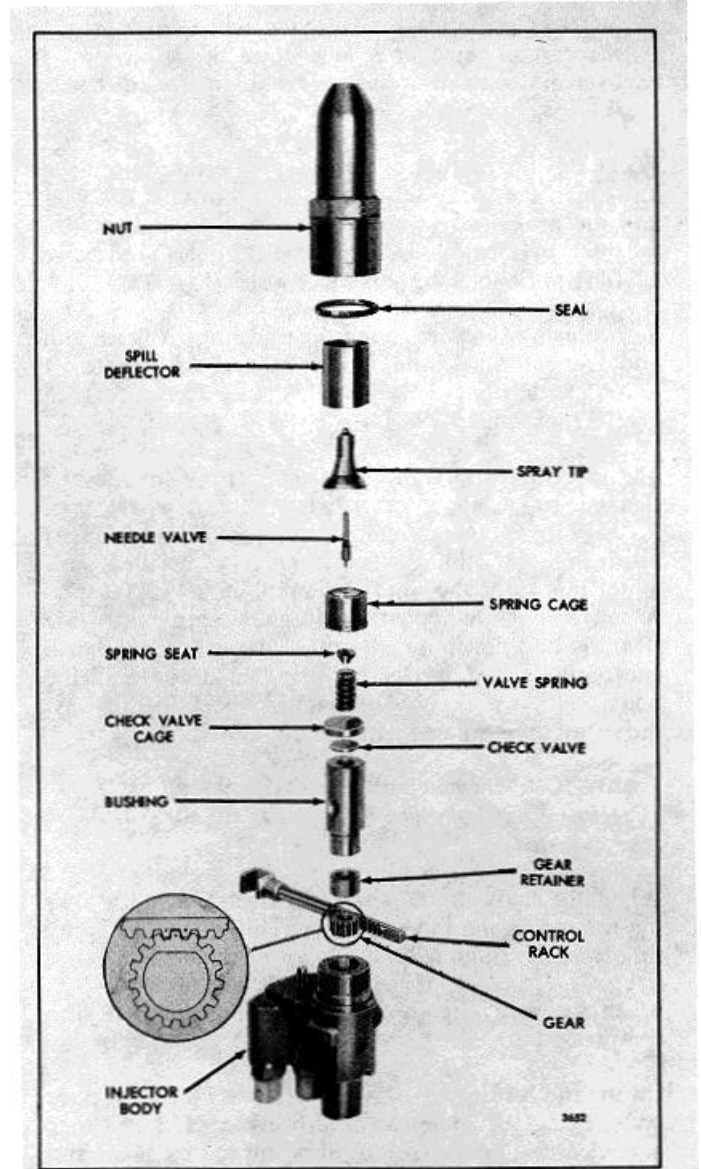

Fig. 36. Injector Rack, Gear, Spray Tip and Valve Assembly Details and Relative Location of Parts
6. Refer to Fig. 36 and remove the spill deflector. Then lift the bushing straight out of the injector body.
Refer to Fig. 36 and note the drill spot marks on the control rack and gear. Then proceed as follows:
2. Place the gear in the injector body so that the marked tooth is engaged between the two marked teeth on the rack (Fig. 36).
Refer to Fig. 36 and assemble the parts as follows: